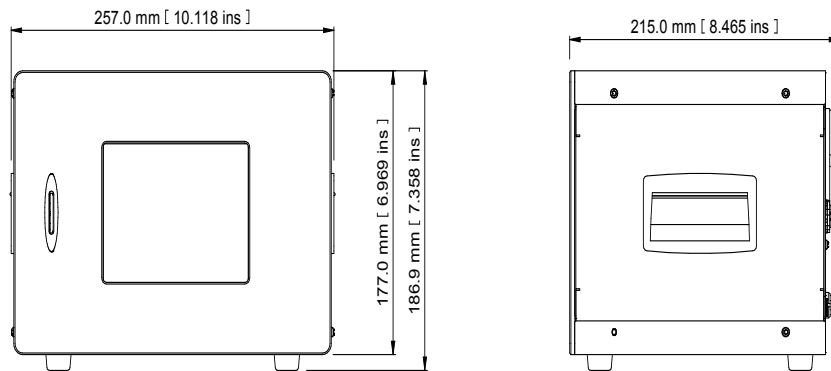

Figure 28 Optisure Remote Dimensions
2. Windows will recognize the instrument and automatically install the relevant drivers. If the driver installation has been successful then the Windows Device Manager Screen will list the following driver (see *Figure 28*):